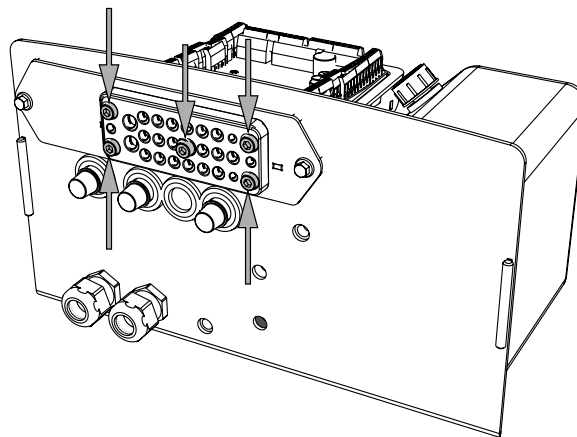

Figure 39. The cable grommet's five screws
1. Loosen the five screws on the cable grommet, see Figure 39. Cables can now be installed/removed/adjusted in the grommet. The cable should be installed together with existing cabling using cable ties.
1. When all cables are suitably located in the cable grommet, tighten the five screws; see Figure 39.